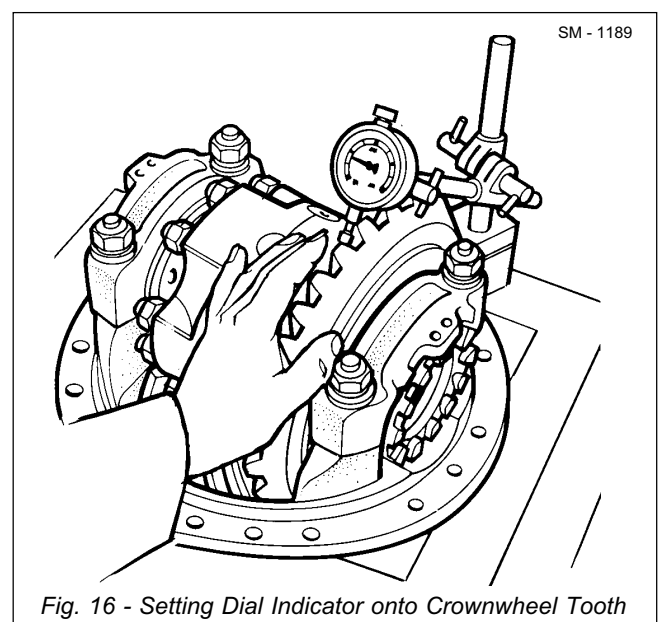

Fig. 16 - Setting Dial Indicator onto Crownwheel Tooth
1. Move dial indicator onto crownwheel (11) tooth as shown in Fig. 16. Hold pinion (37) still and rock crownwheel (11) backwards and forwards, to check free play between gears (backlash), and note variation of indicator reading.
2. Repeat the above steps three more times so that four readings are taken at positions equally spaced around crownwheel (11).